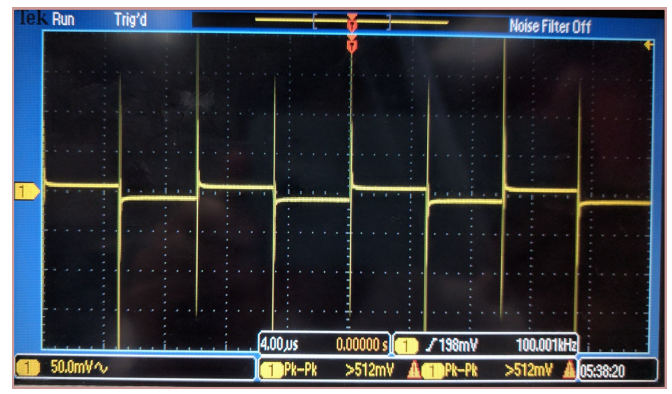
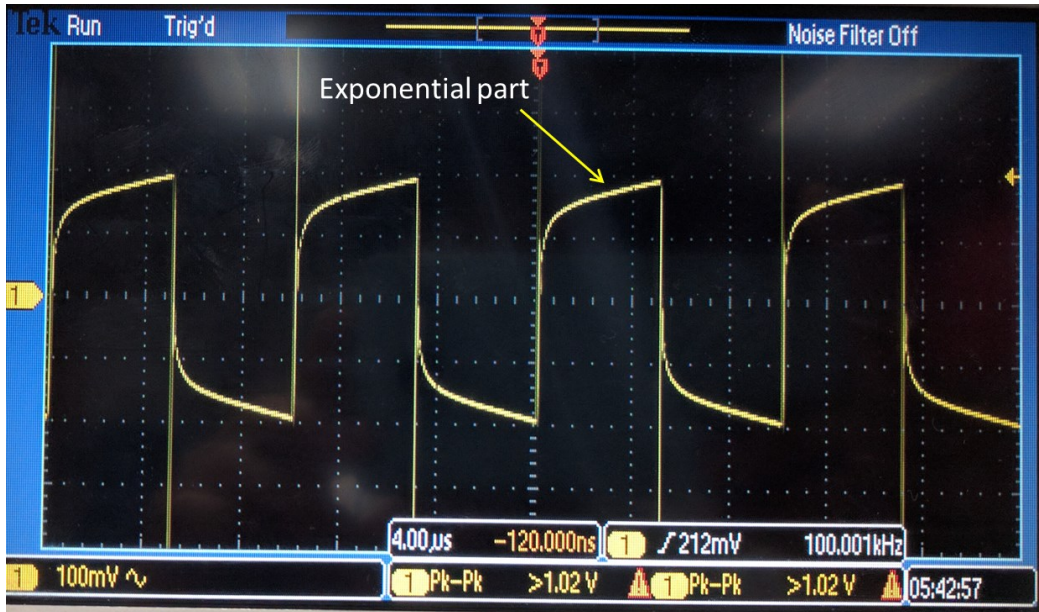

Figure 14. Connecting the capacitor reduces the amplitude.
Figure 17. Smaller capacitors may charge up after the initial step.
3. Connect a test capacitor. The square wave will significantly diminish in amplitude since the capacitor represents a short at high frequency. Change the coupling to AC and the scope screen should look similar to Fig. 14. The tall spikes are due to the inductive portion of the capacitor. We are interested in looking at the peak to peak level of the flat part of the square wave. Ignore the scope's peak to peak measurement because it is measuring the sharp inductive peaks and not the flat top.
6. For some smaller valued capacitors, the waveform will not look like Fig. 14. Instead there will be an exponential component to it after an initial step as shown in Fig. 17. This is due to capacitor charging due to the frequency being too slow. There are two solutions to this. Either the frequency can be increased or the charging portion of the waveform can be disregarded. Ignore the inductive peak and measure the voltage from the start of the square wave to the point just before the capacitor begins charging as shown in Fig. 18.